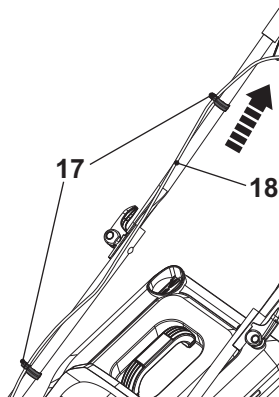

Fig. 4
8. Secure the inter-connection cord (18) with two wire clips (17) (Fig. 4). Pull the inter-connection cord (18) to avoid contact with the rear wheel (9) if necessary.